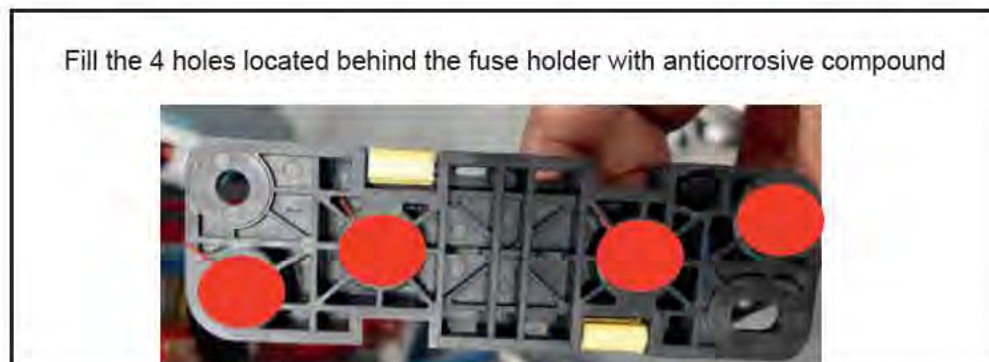

Figure 6 - Anticorrosive Compound Application area Behind the Fuse Holder
- 1.19. Fill the 4 holes located behind the fuse holder with NCP-2 N67314 or Dolph's N86800 anticorrosive compound. It is important the anticorrosive product applied under the fuse holder must be the same as the one applied on the top portion of the fuse holder once the fuse holder is installed. See Figure 6.